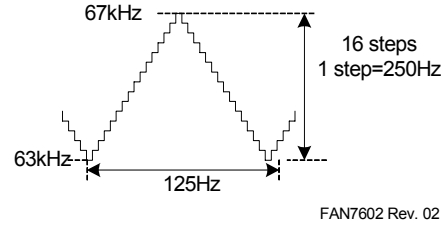

Figure 20. Frequency Modulation
The oscillator frequency is set internally and a frequency modulation (FM) function reduces EMI. The average frequency is 65kHz and the modulation frequency is  $\pm 2$ kHz. The frequency varies from 63kHz to 67kHz with 16 steps. The frequency step is 250Hz and FM frequency is 125Hz, as shown in Figure 20.